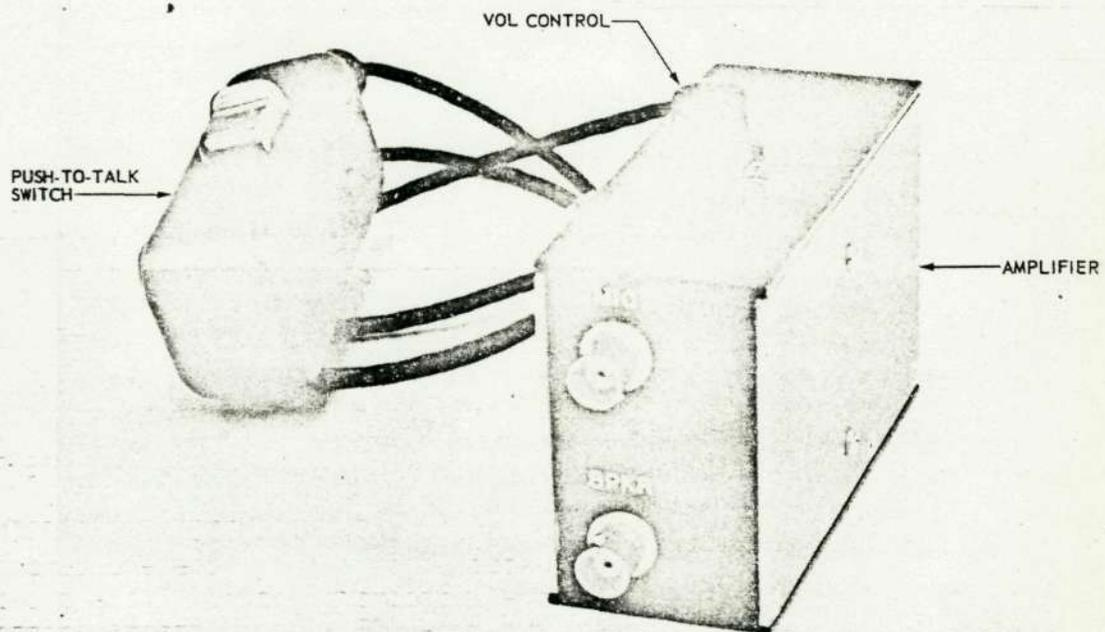

Figure 2-2. Amplifier Assembly
- f. Connect speaker plug to amplifier receptacle marked SPKR. (See Figure 2-2.)
- g. Connect battery pack plug to receptacle on rear end of amplifier marked BATT. (See Figure 2-2.)